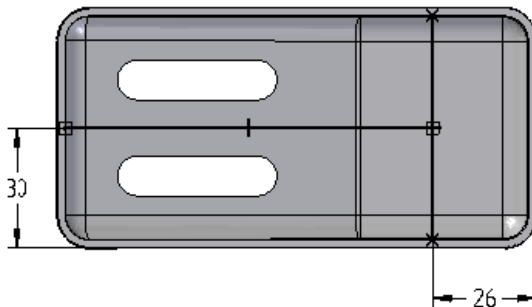

Figure 8-78 Profile for the web network
3. Draw the profile of the web network, as shown in Figure 8-78.